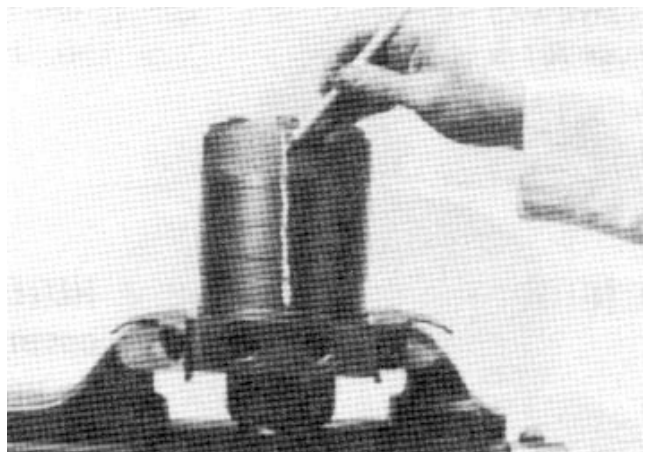

Figure 33
- Place wheel motor in a soft jawed vise with the coupling shaft (11) pointed down and the vise jaws clamping firmly on the sides of the housing (3).
- Scribe an alignment mark down and across the wheel motor components from the end cover (24) to the housing (3) for facilitating reassembly (Fig. 33). If included in end cover, loosen both shuttle valve plugs (left-hand motor only) for disassembly later.